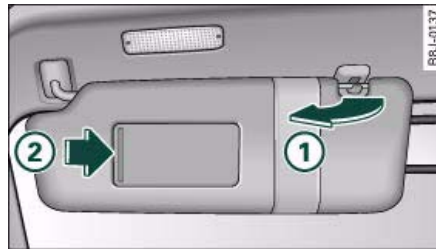

Fig. 64 Passenger's side: Sun visor
The sun visors for the driver and the front passenger can be pulled out of their mountings in the centre of the vehicle and turned towards the doors ⇒ fig. 64 ①. Once the sun visor has been turned towards the door you can pull it towards the rear as desired.